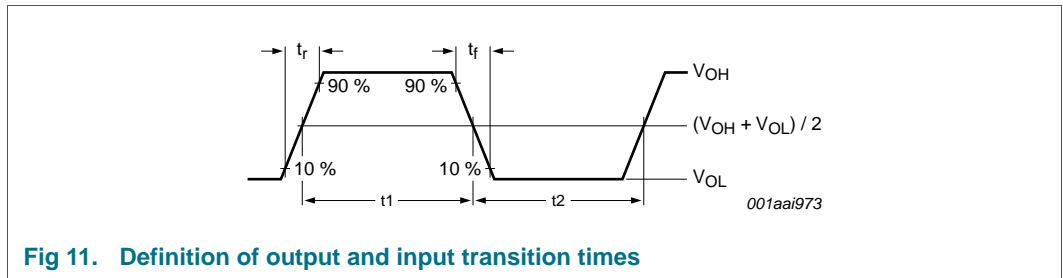

Fig 11. Definition of output and input transition times
- [5] The transition time and the duty factor definitions are shown in Figure 11 on page 21; $\delta = t1 / (t1 + t2)$.